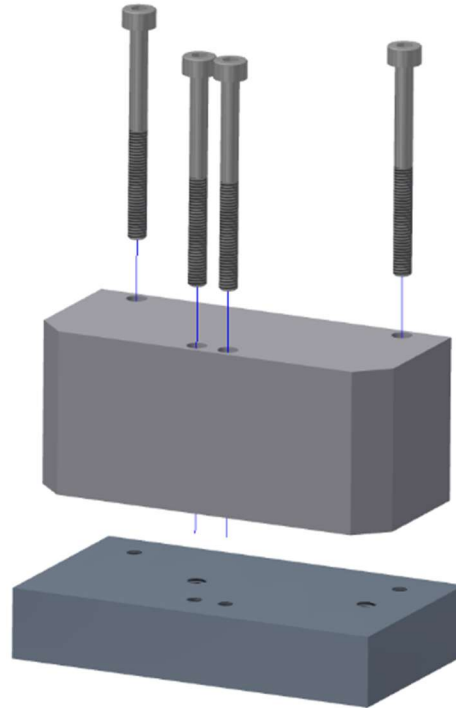

Figure 3-19. DAS structural replacement and DAS mount
3.2.18 Remove the DAS structural replacement (474-1033) from the DAS mount (474-1051) by removing four M3 X 0.5 X 35 LG. SHCS (Figure 3-19).